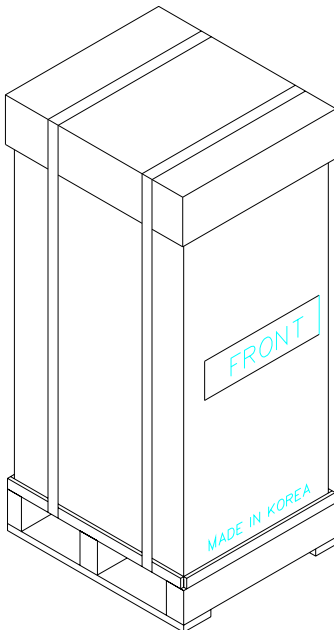

Fig. 4.1.1
- 2) Cut the straps that are fastened around the box with a knife. (refer to Fig. 4.1.1)